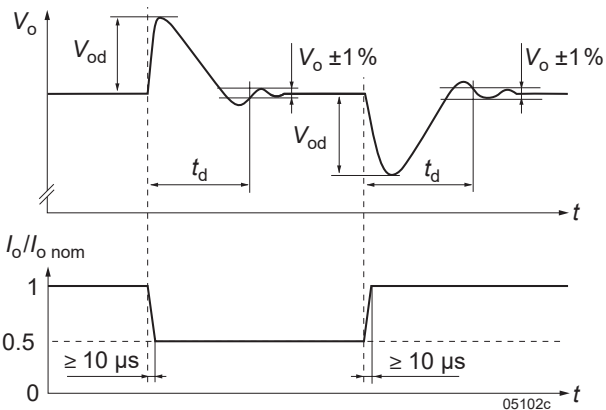

Fig. 3
- 4 Recovery time until  $V_o$  returns to  $\pm 1\%$  of  $V_o$ ; see fig. 3.